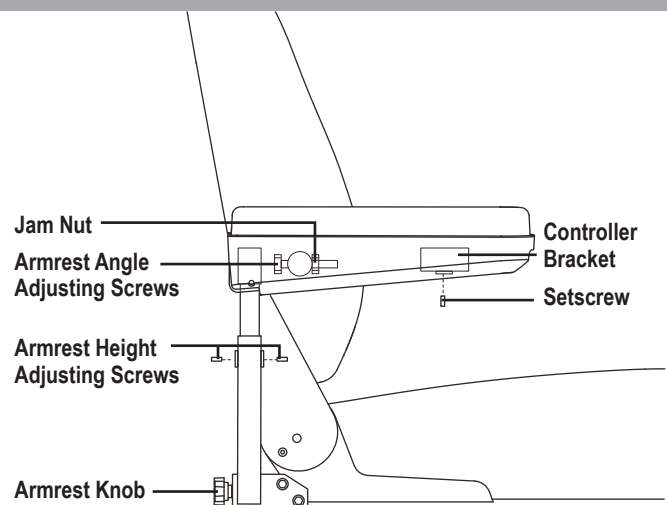

Figure 17. Seatback, Armrest, and Controller Adjustment
1. Locate the two armrest knobs on each side of the armrest receiver bracket. **See figure 17.**
1. Lift the armrest straight up so that it is perpendicular to the floor. **See figure 17.**
1. Loosen the two setscrews located on the armrest receiver. **See figure 17.**
2. Loosen the setscrew on the controller bracket. **See figure 17.**